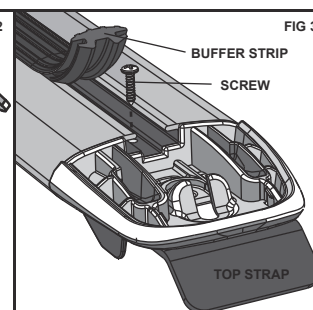

FIG 3
4. Push rubber Buffer Strip back about 20mm until you can see the screw hole in the cross bar. Using a Phillips head screw-driver, fasten the screw through the cross bar and into the End Support Chassis (Fig 3). Replace Buffer Strip.